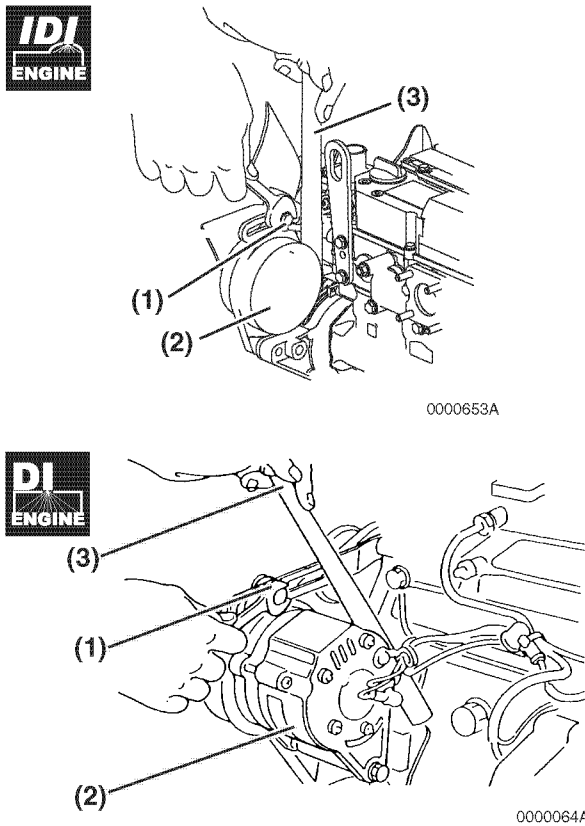

Figure 5
- If necessary, adjust the V-belt tension. Loosen the adjusting bolt (**Figure 5, (1)**) and move the alternator (**Figure 5, (2)**) with a pry bar (**Figure 5, (3)**) to tighten the V-belt to the desired tension. Then tighten the adjusting bolt.